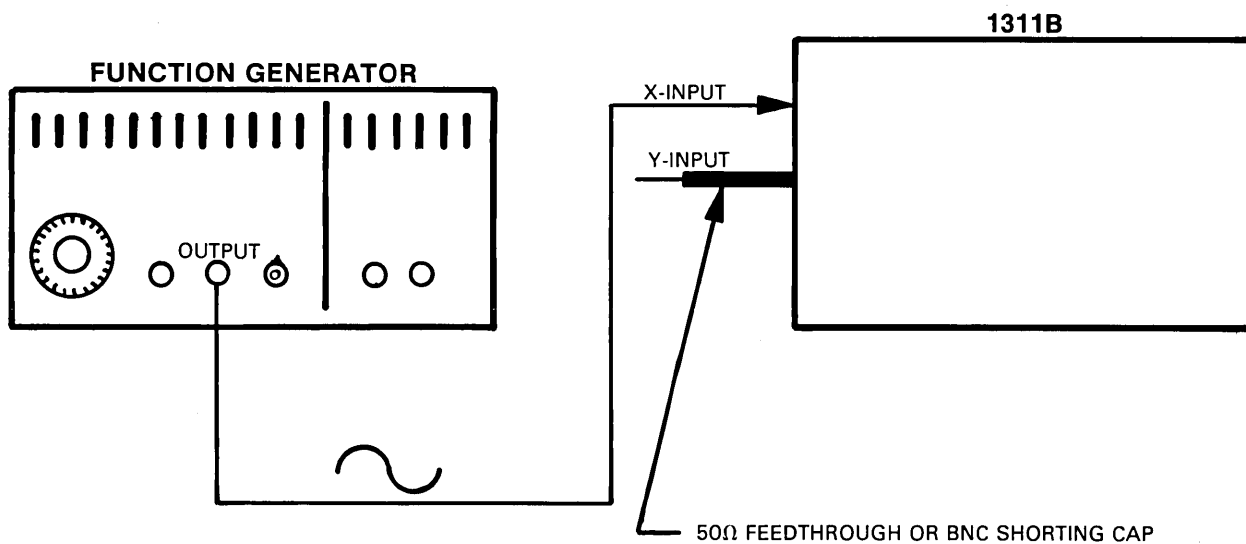

Figure 4-5. Cross Talk Test Setup
- a. Connect equipment as shown in figure 4-5.